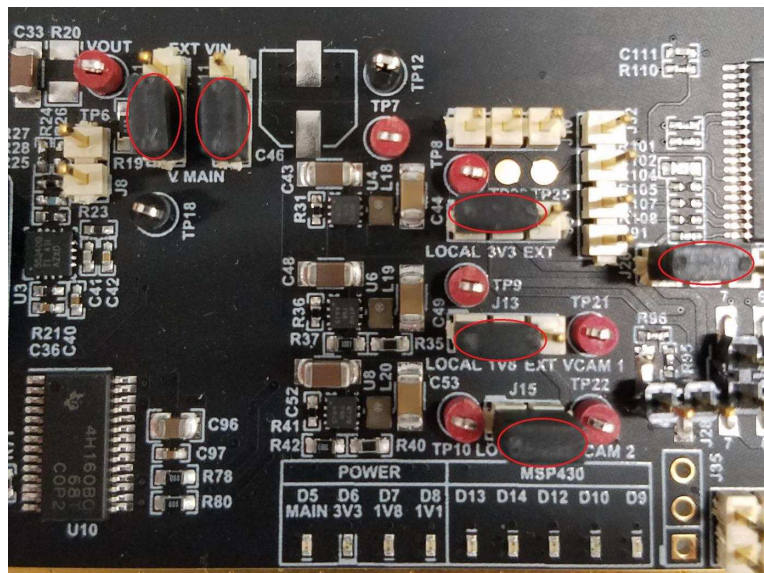

图 8. Board Jumpers
1. Configure the power supply. Add and verify jumpers in the following locations (see 图 8):